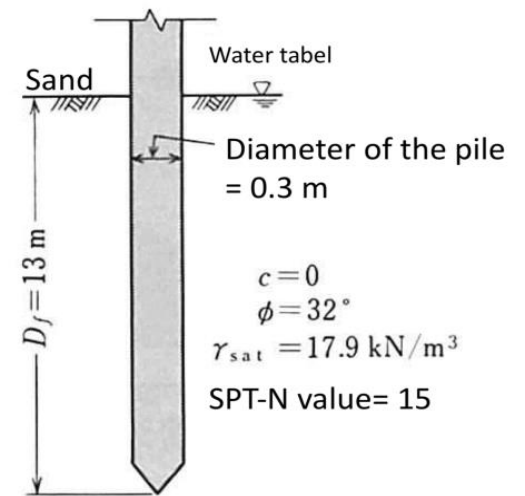

Fig. 6: Pile foundation
9. Fig. 6 shows a pile foundation with diameter of 0.3 m driven into sandy soil by 13 m. The sand has cohesion  $C = 0$  kPa, internal friction angle  $\Phi = 32^\circ$  and unit weight  $\gamma = 17.9$  kN/m3. Water level is at ground surface and  $N_{spt} = 15$ . Calculate bearing capacity of this foundation using the modified Terzaghi's bearing capacity equation? (20 points)